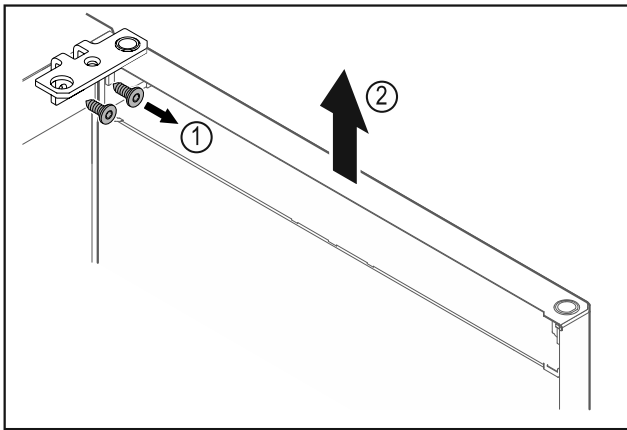

Fig. 5
- Unscrew the hinge Fig. 5 (1).
- Lift the door with the hinge straight up by Fig. 5 (2) roughly 200 mm and take it off.